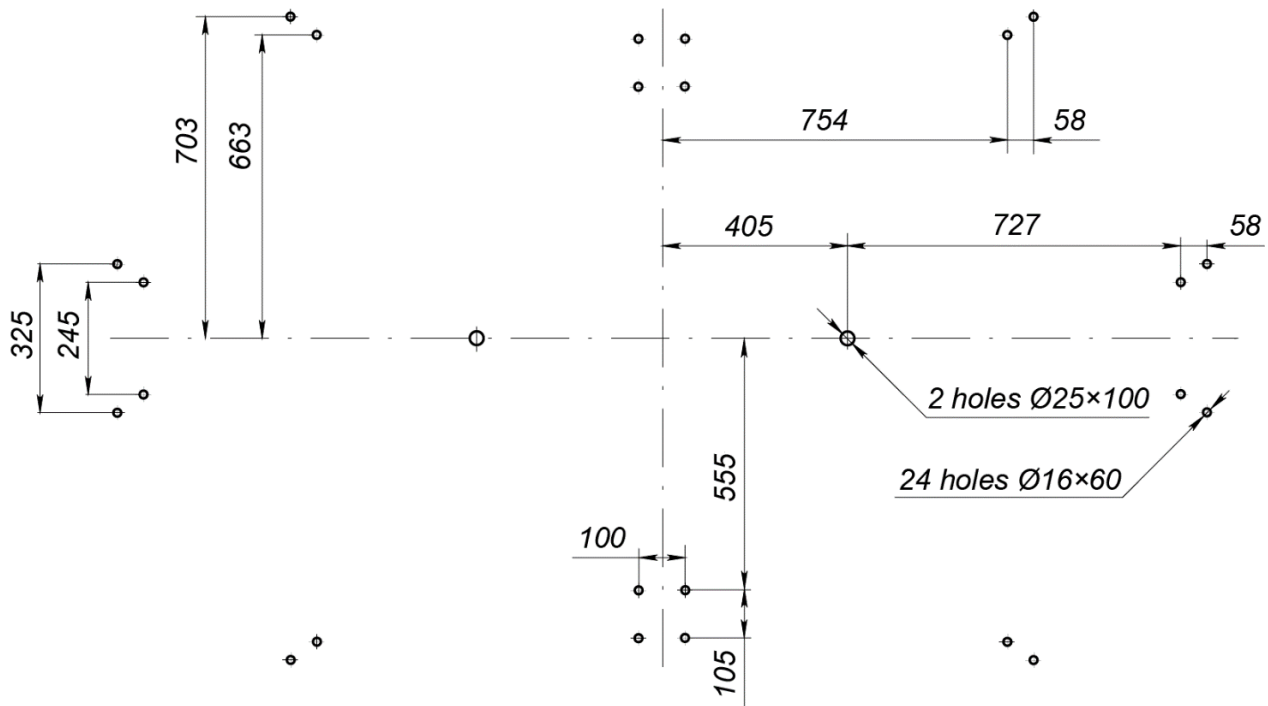

Figure 11. Mounting hole pattern
3. Mark out on the mounting surface mounting holes for the turnstile installation. Use template for markup, check the dimensions in accordance with Fig. 11.